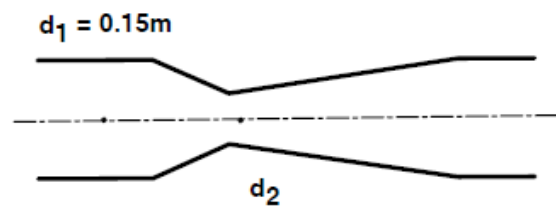

Figure 7: A venturimeter / Rajah 7: Sebuah meter venturi
- [b] A Venturimeter is fitted in a horizontal pipe of 0.15 m diameter to measure a flow of water which may be anything up to $240 \text{ m}^3/\text{hour}$ (Figure 7). The pressure head at the inlet for this flow is 18 m above atmospheric and the pressure head at the throat must not be lower than 7 m below atmospheric. Between the inlet and the throat there is an estimated frictional loss of 10% of the difference in pressure head between these points. Calculate the minimum allowable diameter for the throat.